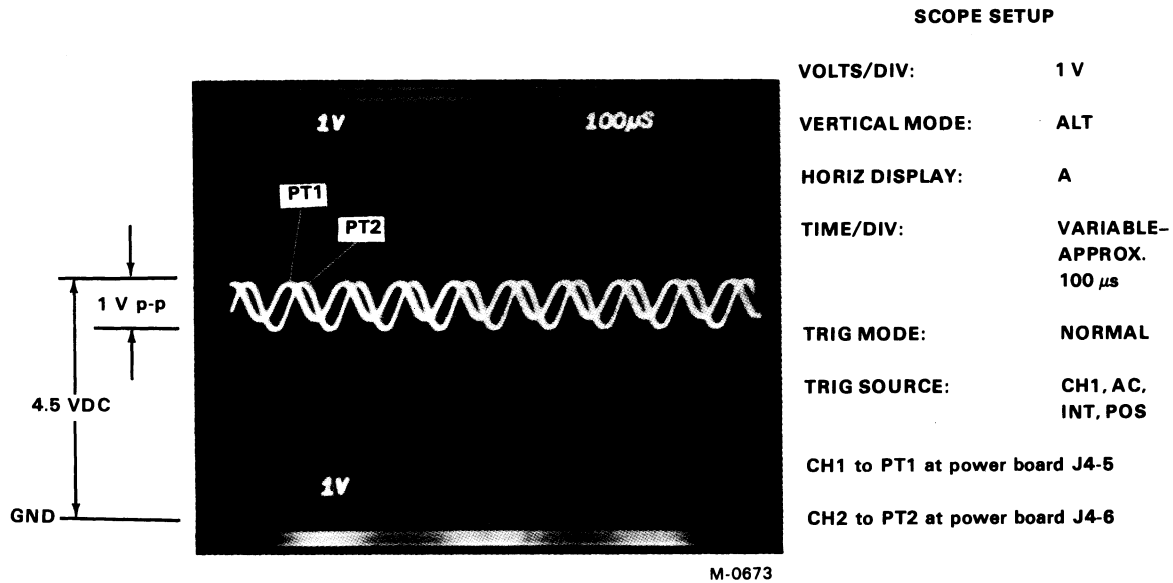

Figure 6-10 -PT1 and -PT2 Waveforms
9. Check the waveforms at the test points shown in Figures 6-10 through 6-14.